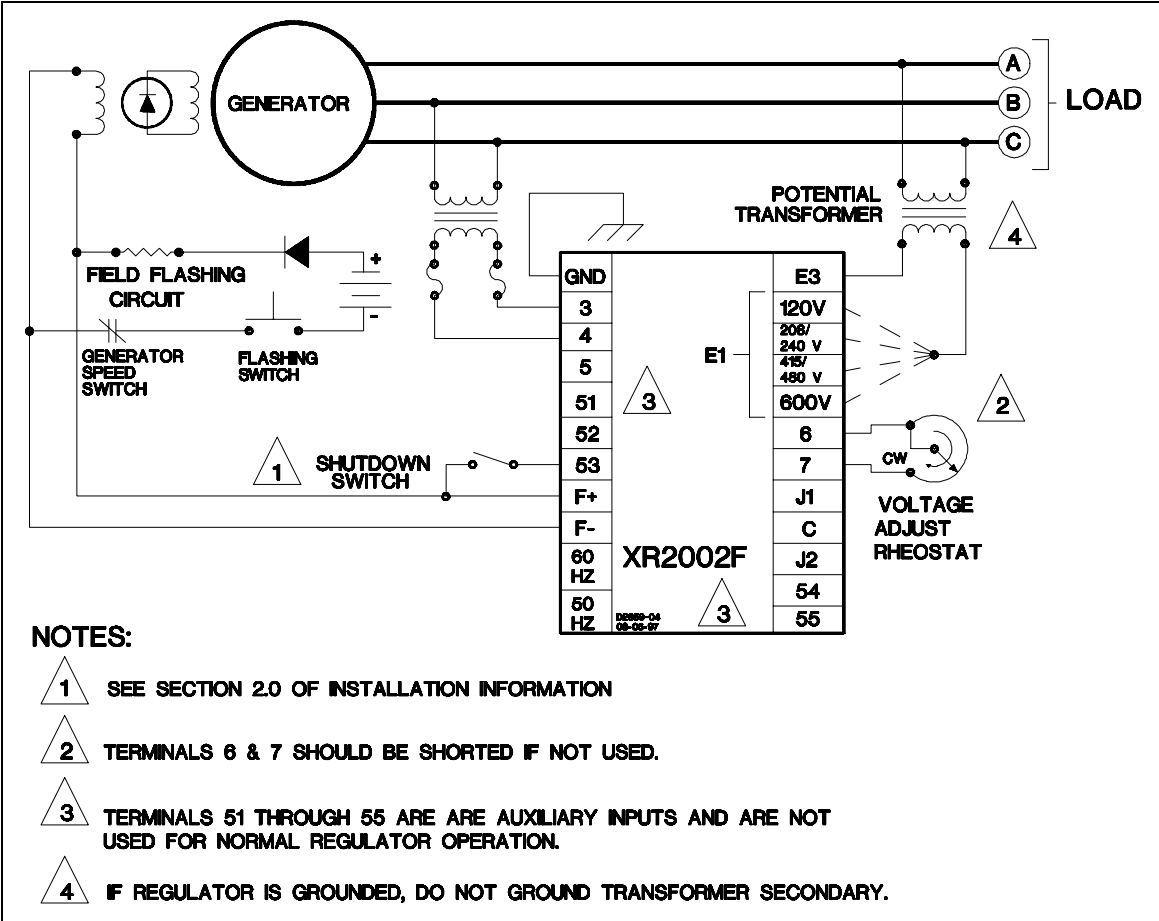

Figure 2-3. XR2002/XR2002F Interconnection Diagram (Input Power from Generator Output).
- b. Refer to Figure 2-3. Single-Phase input power from the generator output, and through an isolation transformer, (within the 48 to 480 Hz frequency range) should not exceed 90 Vac to 153 Vac between terminals 3 and 4.
- c. Refer to Figure 2-3. Three-Phase input power from the generator output, and through an isolation transformer, (within the 48 to 480 Hz frequency range) should not exceed 70 Vac to 110 Vac between terminals 3, 4, and 5.
- a. Connect the field flashing circuit as shown in Figure 2-3. The positive terminal of the dc source voltage must be connected to terminal F+ and the negative terminal of the dc source voltage must be connected to F-.